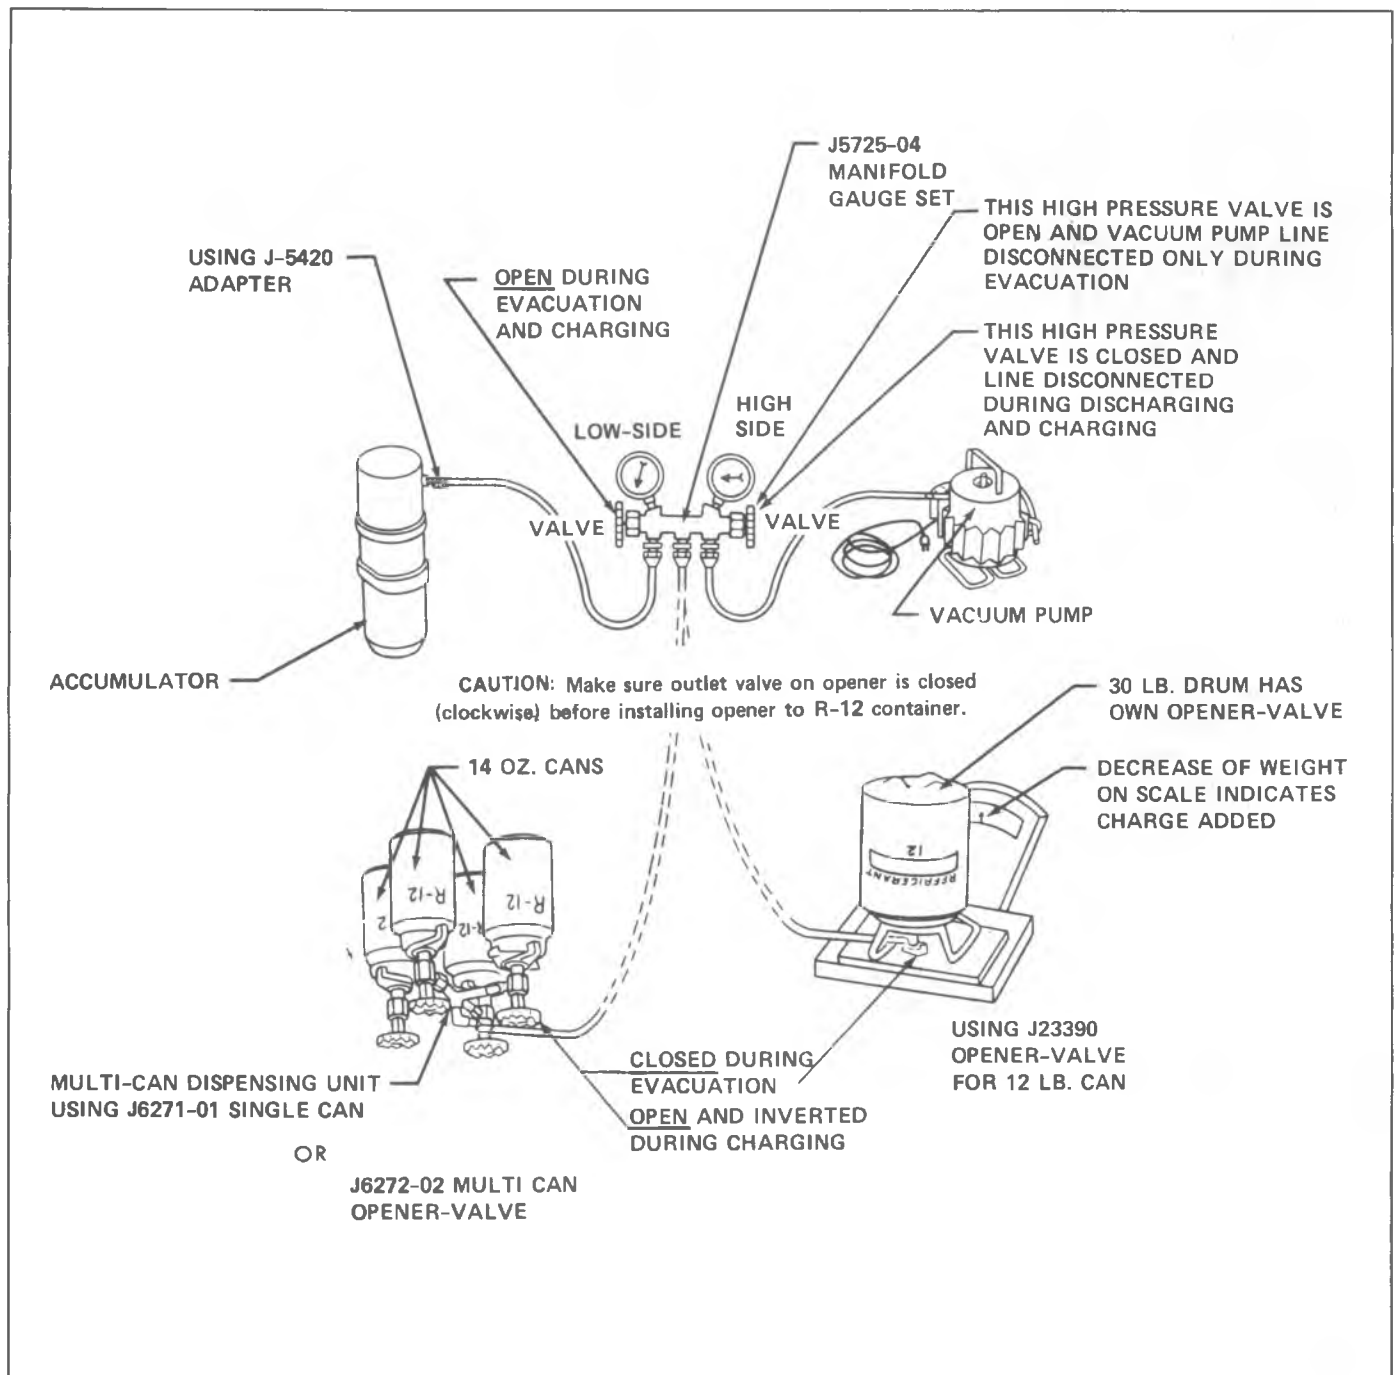

Fig. 1B-24--Charging the CCOT A/C System with Disposable Can or Refrigerant Drum.
1. Connect Manifold Gage Set J-5725-04 as follows. Also see Fig. 1B-12.
2. To begin evacuation of the A/C system, with Manifold Gage Set and Vacuum Pump as illustrated in Fig. 1B-13, SLOWLY open high and low-side gage valves and begin vacuum pump operation. Pump the system until the low-side gage reaches 711.2 - 736.6mm (28 to 29 in.) mercury (vacuum) or more.